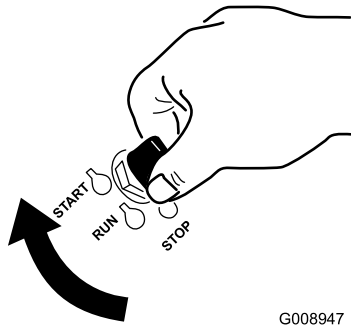

Figure 19
6. Turn the ignition key to the Start position (Figure 19). When the engines starts, release the key.